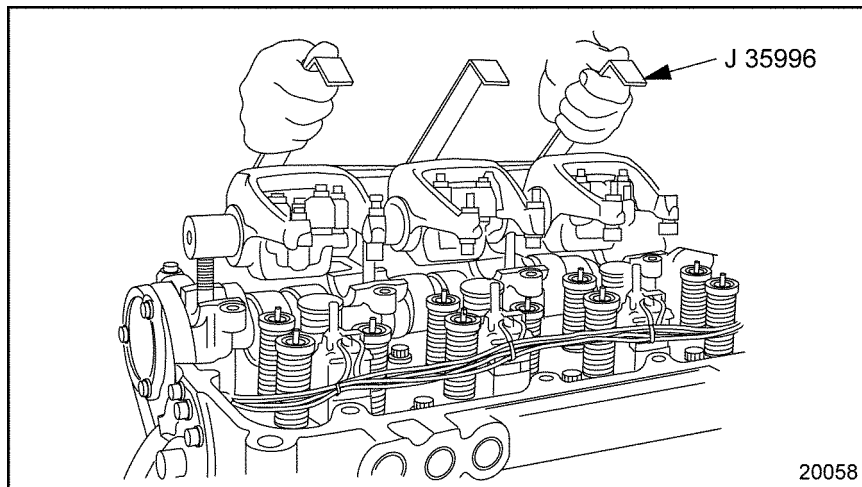

Figure 2-1 Rocker Arm/Shaft Assembly Removal/Installation
5. Remove the three rocker shaft mounting bolts and nut from the front rocker shaft assembly. Using removal tool (J-35996-A), see Figure 2-1, lift the assembly straight up and off of the head and place in a clean area on the bench.